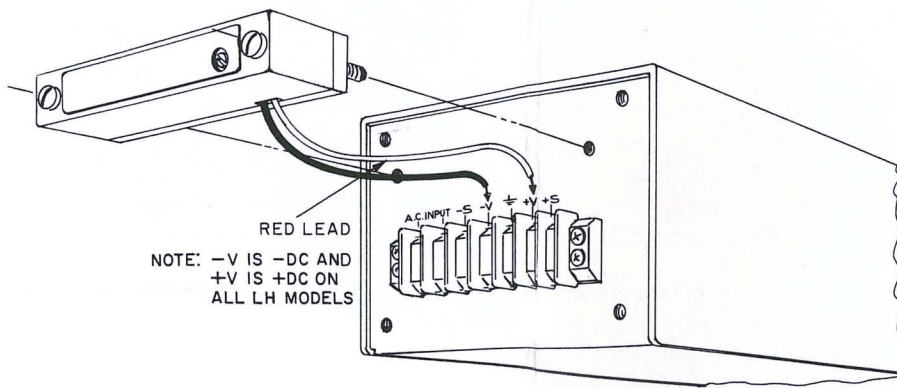

Figure 1. Overvoltage Protector, Typical Horizontal Mounting
1. Position the protector on the power supply, figure 1 or 2, so that the unit is located adjacent to the supply output terminal block and the red and black leads are next to the terminal block.